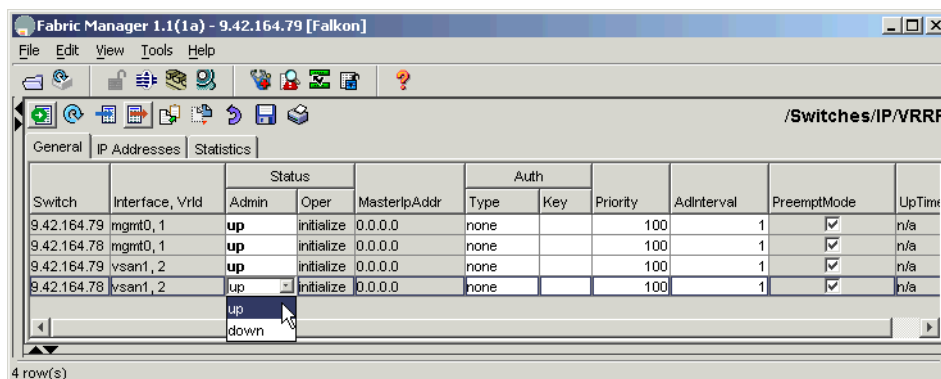

Figure 2-140 Starting VRRP
16. Change the admin status of all your VRRP groups to **up** as shown in Figure 2-140.